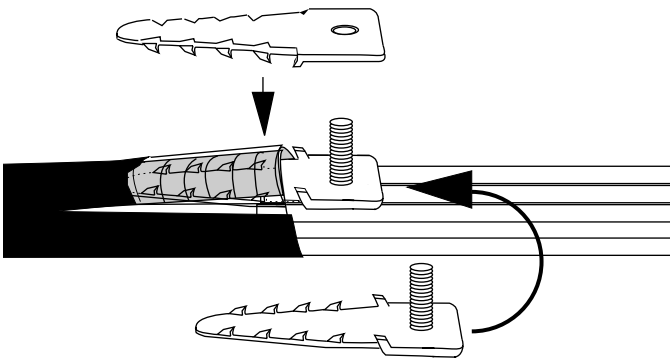

Figure 31
- b) Slide the base plate under the armor. Be careful not to damage the buffer tubes. Place the top plate over the base plate and tighten down with its lock nut (Figure 31). A few light taps on the top plate may help seat the teeth of the grounding clamp.